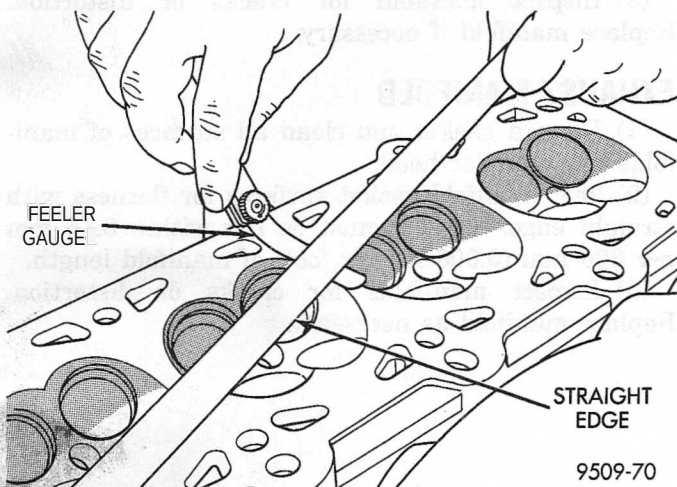

Fig. 96 Checking Cylinder Head Flatness
(1) Cylinder head must be flat within 0.1 mm (0.004 inch) (Fig. 96).
(2) Inspect camshaft bearing journals for scoring.